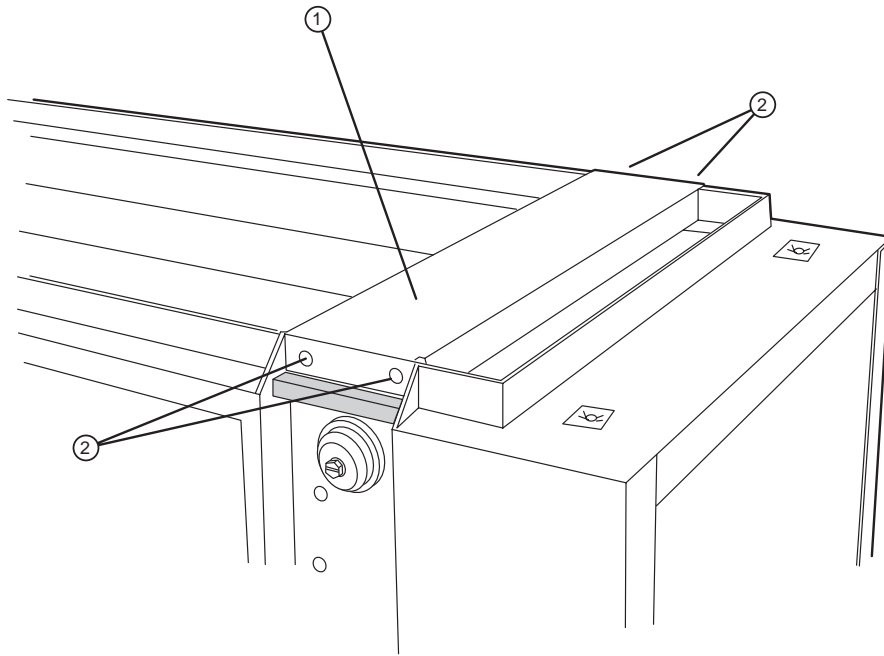

Figure 1-17 Older buffer brace.
- a. Remove the four (4) screws in the braces on the left and right hand side of the buffer. Refer to Figure 1-17. Lift the braces off.